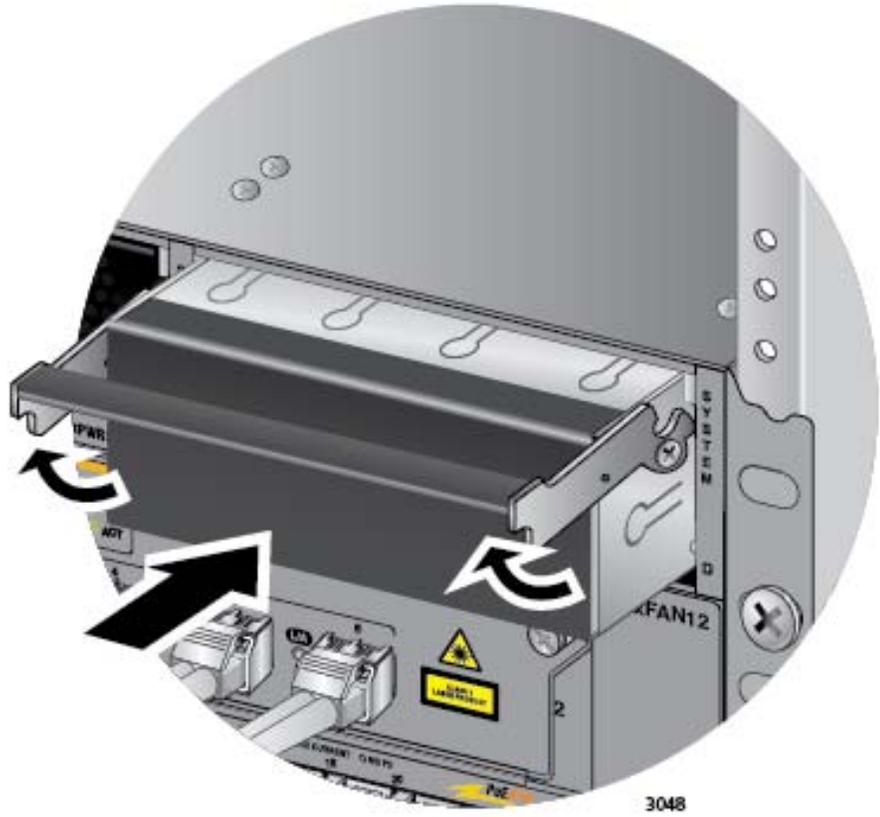

Figure 148. Installing a Blank Power Supply Slot Cover
5. Place the locking handle on the slot cover in the up position and slide the cover into the empty power supply slot, as shown in Figure 148 on page 240.